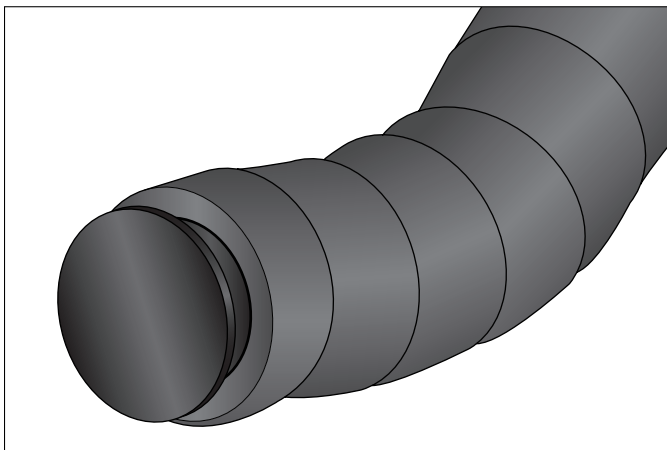

Figure 15-10:
9. Insert the plug for the end of the handlebar (see Figure 15-10).